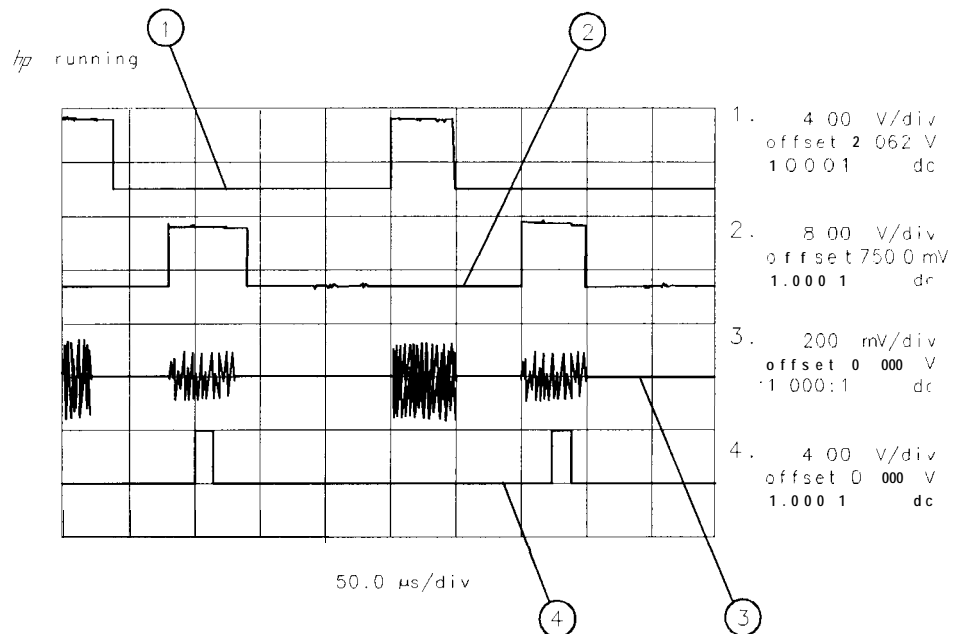

Figure 4-26. Placing the Gate Output During the Second Signal
9. To view the second signal, change the gate delay so that the gate output is under the second signal. Since the second signal had a signal delay of approximately  $85 \mu\text{s}$ , we set the gate delay to  $85 \mu\text{s}$  plus the pulse width/2, or  $110 \mu\text{s}$ . Press **[SWEEP]**, Gate Control , GATE DELAY 110 **[ $\mu\text{s}$ ]** to set the gate delay to  $110 \mu\text{s}$ . Using an oscilloscope can be helpful in placing the gate output during the pulsed signal (see Figure 4-26).
Item	Description of Items in Figure 4-26